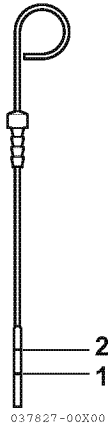

Figure 3
2. Fully reinsert dipstick (2, **Figure 3**).
3. Remove the dipstick. The oil level should be between the upper (2, **Figure 3**) and lower (1, **Figure 3**) lines on dipstick.